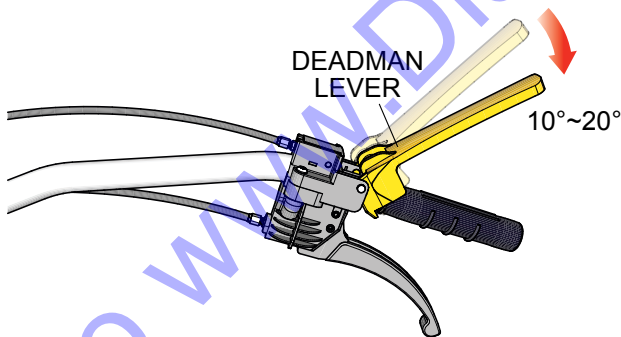

Figure 42. Deadman Lever Engaged (10°~20°)
2. With the engine **OFF**, push down on the **YELLOW** deadman lever (Figure 42) about 10~20°.